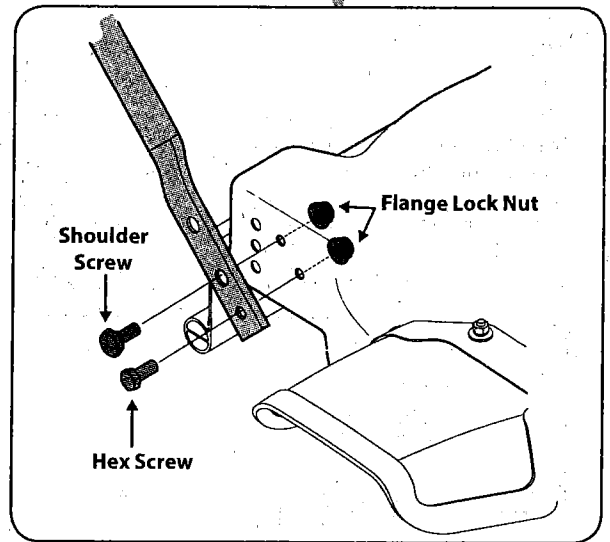

Figure 3-2
3. Secure the lower handle to the deck using the hex screws, shoulder screws, and flange lock nuts. See Figure 3-2.